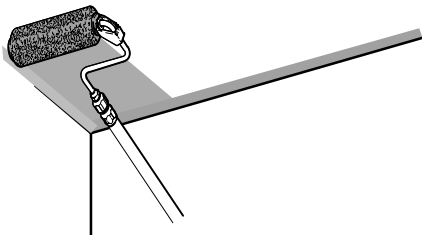

Fig. 6
2. With the roller, apply paint to the ceiling, working the short way of the room and applying as wide a strip as possible. (Fig. 6.)